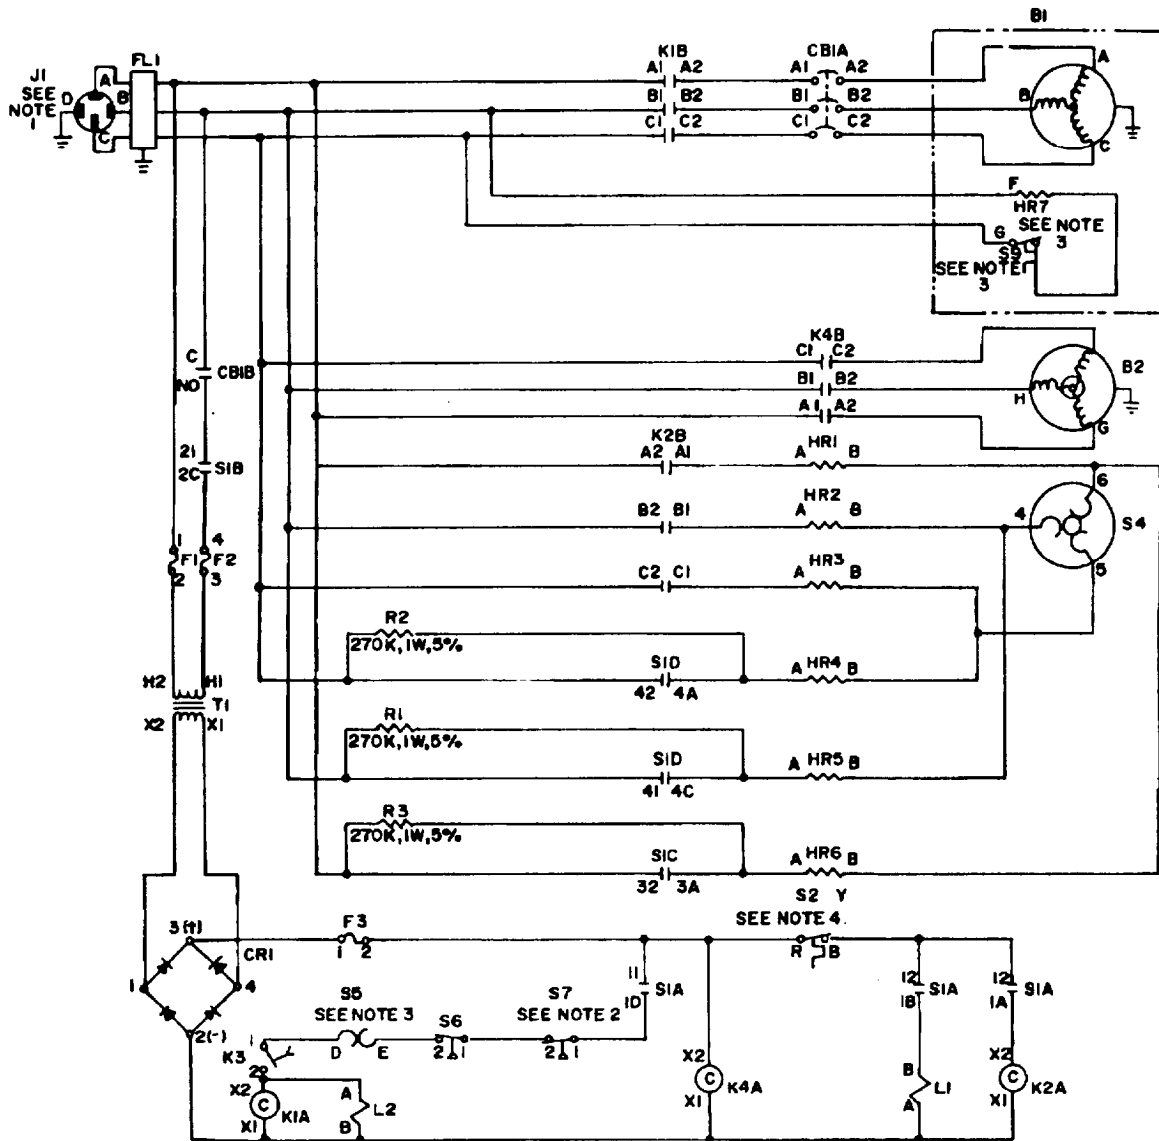

Figure 4-17. Electrical Schematic
- (8) If fan blades turn away from grille, unit power cable is not connected properly. Exchange wires connected to pins A and B at power source connection and repeat steps (6) and (7) above.
- (9) Check unit operation in accordance with para 2-6 and 2-7.
- i. See air conditioner wiring diagram, figure 4-16, and electrical schematic, Figure 4-17, for additional wiring information.